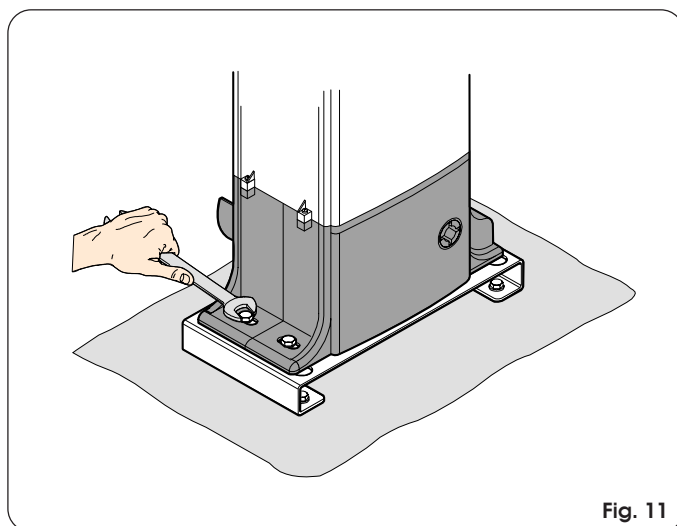

Fig. 11
- Temporarily fix the operator by slightly tightening the screws as shown in Fig. 11.